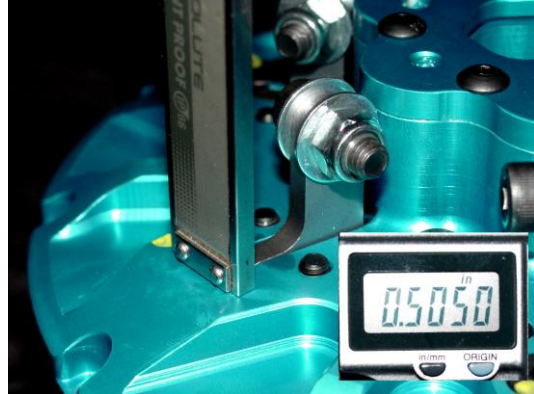

Fig. 4
- G. Attach the hat assembly on the basket and tighten the ten (10) allen head cap screws to secure it.
- H. The air gap between the arms and the pressure plate buttons can be measured using the thin bottom section of a caliper. Stick the caliper rod into the slot opening just behind the arm (See Fig. 4) until it hits the top of the button on the pressure plate. Take a height reading to the top of the Gen II hat, this reading should be between 0.490"-0.510". This gives an air gap of 0.100"-0.120". It is better to start with an air gap of 0.100" to compensate for clutch wear. This technique can be used to maintain the air gap, after repeated runs, without removing any part of the clutch.